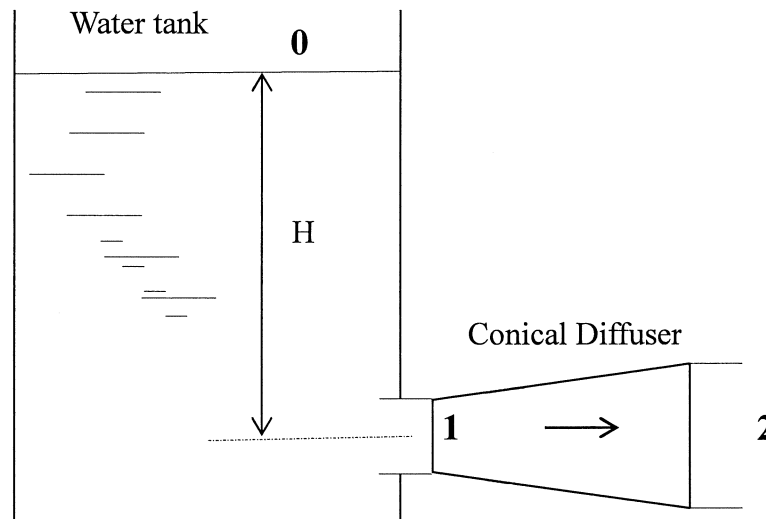

Figure 3
- 3 (a) Water is discharged from a tank to the atmosphere through a conical diffuser as shown in Figure 3. The diameters of the diffuser at the entrance and exit are 30 mm and 60 mm respectively.